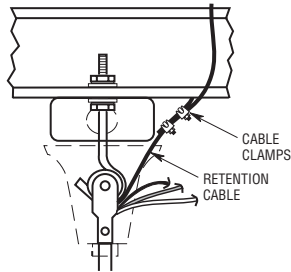

Figure 7
- 2. Lift the fan onto the J-hook and position as shown in Figure 7. Make sure the motor wires and retention cable at the top of the hanger pipe are positioned behind J-hook as illustrated in Figure 7.
**CAUTION: The electrical wires and retention cable must not be placed between the rubber roller and the hook, but rather as illustrated in Figure 7.**